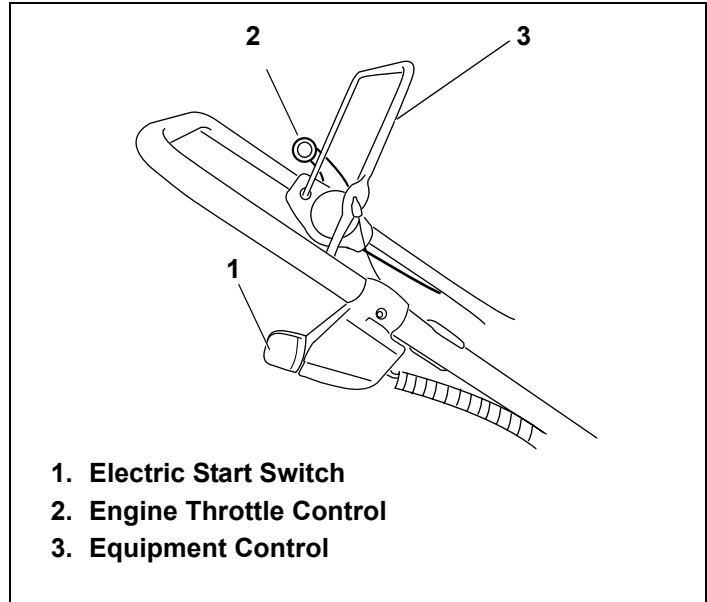

Figure 12. Typical Engine Controls
2. Move engine throttle control to "FAST" position, if present (see equipment manufacturer's instructions). See Figures 12 and 13.
4. Operate equipment control to release engine brake or clutch, if present (see equipment manufacturer's instructions). See Figure 12.
2. Move engine throttle control to "CHOKE" or "START" position, if present (see equipment manufacturer's instructions). See Figures 12, 13 and 16 starting on page 7. Afterward, continue reading instructions below.
If restarting a warm engine after a short shutdown, move engine throttle control to "FAST" position instead of "CHOKE" or "START" position. See Figures 12, 13 and 16 starting on page 7. Afterward, continue reading instructions below.
3. Operate equipment control to release engine brake or clutch, if present (see equipment manufacturer's instructions). See Figure 12 on page 7. Afterward, continue reading instructions below.
- b. Move engine throttle control to "FAST" position. See Figures 12, 13 and 16 starting on page 7. Afterward, continue reading instructions below.
- a. Move engine throttle control back to "CHOKE" position. See Figures 12, 13 and 16 starting on page 7. Afterward, continue reading instructions.
- b. Next, move engine throttle control to "FAST" position. See Figures 12, 13 and 16 starting on page 7. Afterward, continue reading instructions below.